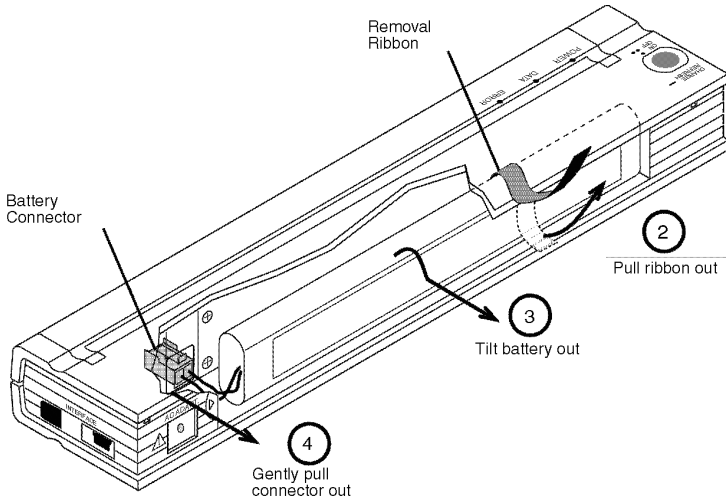

Figure 13. Instructions for removing the battery
2. Pull out on the battery removal ribbon as shown in Figure 13 until the battery starts to tilt out of its compartment.